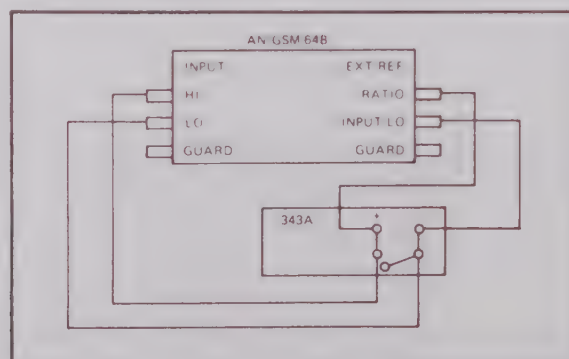

Figure 5. OPERATIONAL TEST CONNECTIONS
- c. Connect equipment as shown in Figure 5.